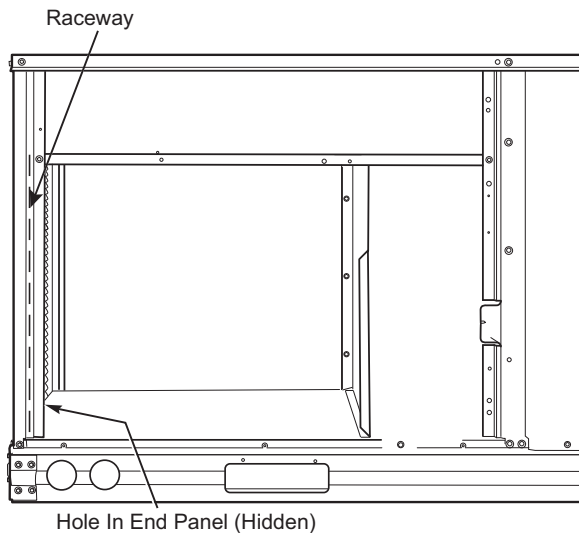

Fig. 31 — Field Control Wiring Raceway
All low-voltage wiring should be routed through the provided raceway built into the corner post of the unit (see Fig. 31) or secured to the unit control box with electrical conduit in order to provide UL-required clearance between high and low-voltage wiring.
Pass the thermostat control wires through the hole provided in the corner post, then feed the wires through the raceway built into the corner post to the control box. Pull the wires over to the terminal strip on the upper-left corner of the Unit Control Board. See Fig. 31.
2. Feed wires through the raceway built into the corner post (see Fig. 31) to the 24-v barrier located on the left side of the control box. The raceway provides the UL-required clearance between high-voltage and low-voltage wiring.